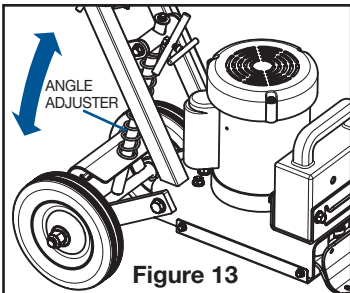

Figure 13
- Blade angle adjustment is achieved using the angle adjuster (Figure 13). **NOTE:** the angle adjuster is **SPRING-LOADED**. Once the inner jam nut bar and the outer T-bolt are loosened (explained below), the spring causes the machine to rise up **RAPIDLY AND FORCEFULLY**. During blade angle adjustment, keep body parts that are not needed in the adjustment process **AWAY** from the blade and the machine. Make sure that the wheels and blade carrier are on the ground.